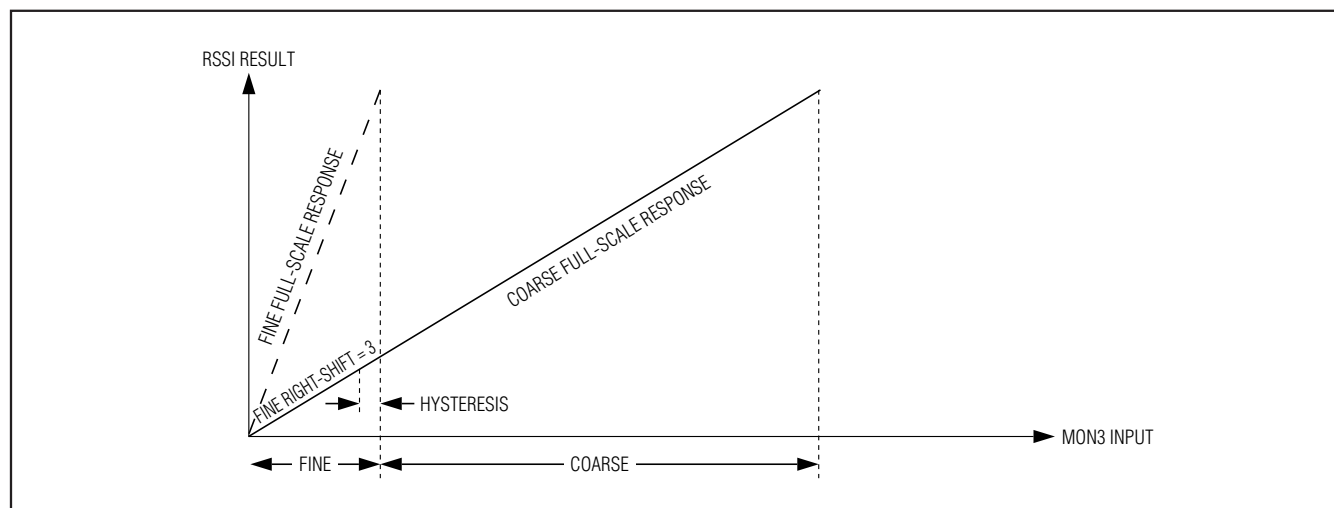

Figure 8. RSSI with Crossover Disabled
- Crossover Disabled:** The crossover-disabled mode is intended for systems with a linear relationship between the MON3 input and the desired ADC result. Hysteresis allows for a nonjittery response when the input is at the crossover boundary of the fine and coarse DAC. In a nonlinear system, the hysteresis could cause significant errors in the ADC result. See Figure 8.
The DS1873 contains two power-on reset (POR) levels. The lower level is a digital POR (POD) and the higher level is an analog POR (POA). At startup, before the supply voltage rises above POA, the outputs are disabled, all SRAM locations are set to their defaults, shadowed EEPROM (SEE) locations are zero, and all analog circuitry is disabled. When V_{CC} reaches POA, the SEE is recalled, and the analog circuitry is enabled. While V_{CC} remains above POA, the device is in its normal operating state, and it responds based on its non-volatile configuration. If during operation V_{CC} falls below POA, but is still above POD, then the SRAM retains the SEE settings from the first SEE recall, but the device analog is shut down and the outputs disabled. If the supply voltage recovers back above POA, then the device immediately resumes normal operation. If the supply voltage falls below POD, then the device SRAM is placed in its default state and another SEE recall is required to reload the nonvolatile settings. The EEPROM recall occurs the next time V_{CC} exceeds POA. Figure 8 shows the sequence of events as the voltage varies.